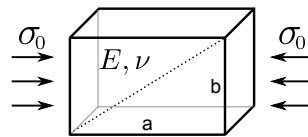

Figure 1: Box under uniaxial compression.
1. Consider a 3D rectangular box, subject to uniaxial stress  $\sigma_0$  in the  $z$  direction, as shown in Fig. 1. The faces in the  $x, y$  directions are traction-free. The rest-lengths of the boxes sides are  $a, b$ . Calculate the slope of the dashed line as a function of  $\sigma_0, E$  and  $\nu$ . When  $\sigma_0 \geq E$  something weird happens. Is linear elasticity wrong?